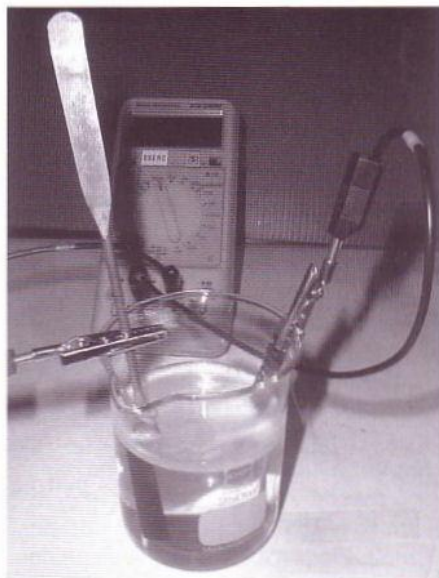

Figure 2 Making polypyrrole.
Figure 2: There is some increase in the use of interfacing devices at Standard Grade. Physics and "Science" (or whole science department responses) take a clear lead over biology and chemistry as fairly frequent or occasional users of such approaches.
- Slowly reduce the resistance until the ammeter reads approximately 40 mA. The nickel electrode will quickly get a black coating of polypyrrole and bubbles of hydrogen will form at the copper electrode (Fig. 2).
Figure 2 Graph of values of distance versus time showing a parabola fitted through the points. The turning point coincides with the point at 0.5064 s indicating that the cart's release had been synchronised with the data capture events.
To check whether the release was synchronised with measurements, you need to look at a graph of distance versus time. I highlighted the data between the first point after release and the first point after a range of 0.4 m, and fitted a quadratic curve to the data. This fitted a parabola through the points, the turning point of which showed me the time of release. In the example given (Fig. 2), the parabola's turning point coincides with the data point at a time of 0.5 s. I was therefore able to analyse this data set to look for Galileo's number pattern.
Figure 2 Sketch of Petri dish carrier made from the base of a plastic juice bottle (not to scale). The inset shows one end of a plastic strip with a slot cut for its insertion into the sides of the bottle to become one end of a handle.
2. Mark another line 1.5 cm below this edge and cut out to make a strip for a handle. Neaten the edges and cut a notch at each end of the strip as shown in Figure 2.